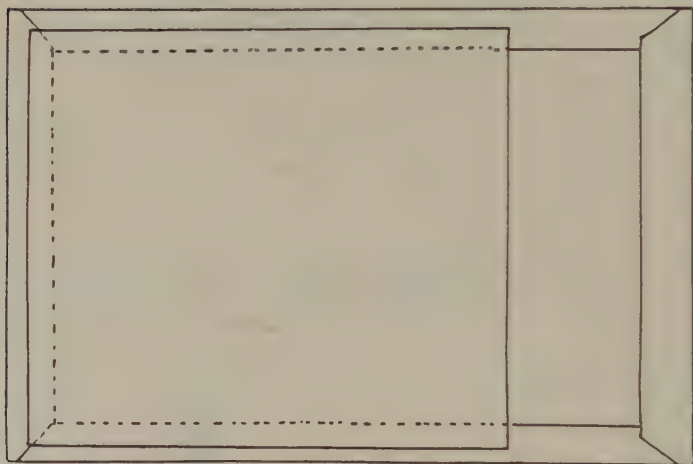

FIG. 78—BACK OF FACE BOARD WITH LINING PAPER AFFIXED
14. Next glue-off and affix paper back to face board. This piece of paper, the only one left, $4\frac{3}{8}'' \times 4\frac{3}{4}''$. It goes over the lower section of the board. (Fig. 78.)